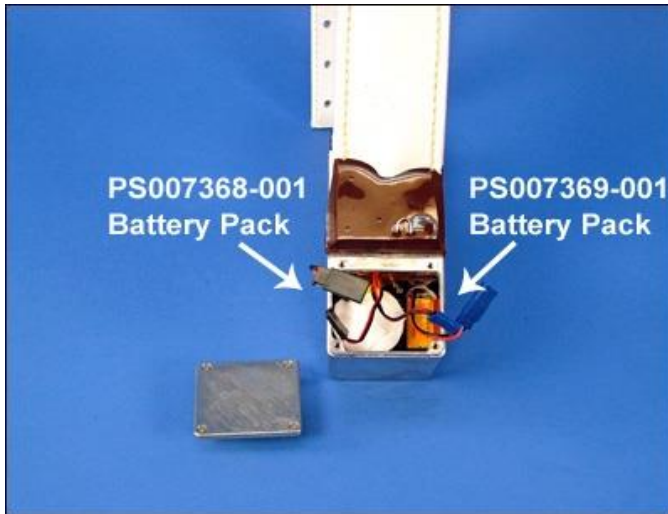
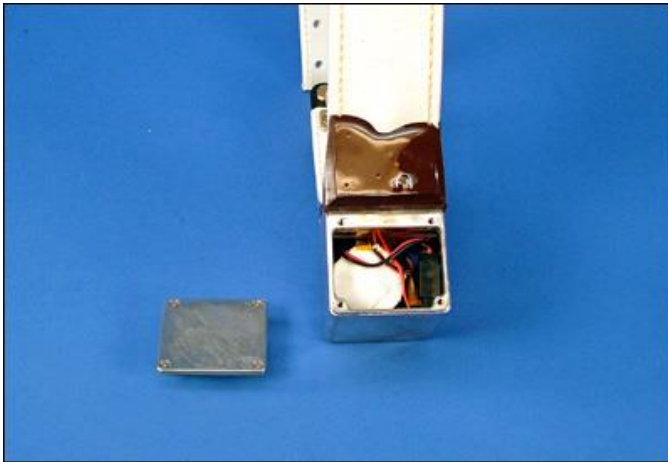

Fig. 5 Battery packs replaced and ready to be connected
Fig. 6 Batteries installed, leads and connectors in place
1. Obtain a new VHF battery pack **PS007369-001** with a blue connector and slide it into the VHF battery position. Mate the blue battery pack connector with the blue VHF power connector. Also obtain a new GPS battery pack **PS007368-001** with a black connector and insert it into the GPS battery position. **(Fig. 5)** Mate the black battery pack connector with the black GPS power connector **(Fig. 6)**.
2. Dress and fold the power leads and battery pack connectors on the top of the VHF battery pack **(Fig. 6)**. Make sure to tuck all power leads, and connectors **inside the opening and below** the sealing edge of the housing. Make sure the sealing edge of the housing and the cover plate are clean and free of contamination. Debris trapped between the housing and cover plate will result in moisture penetration and premature failure.